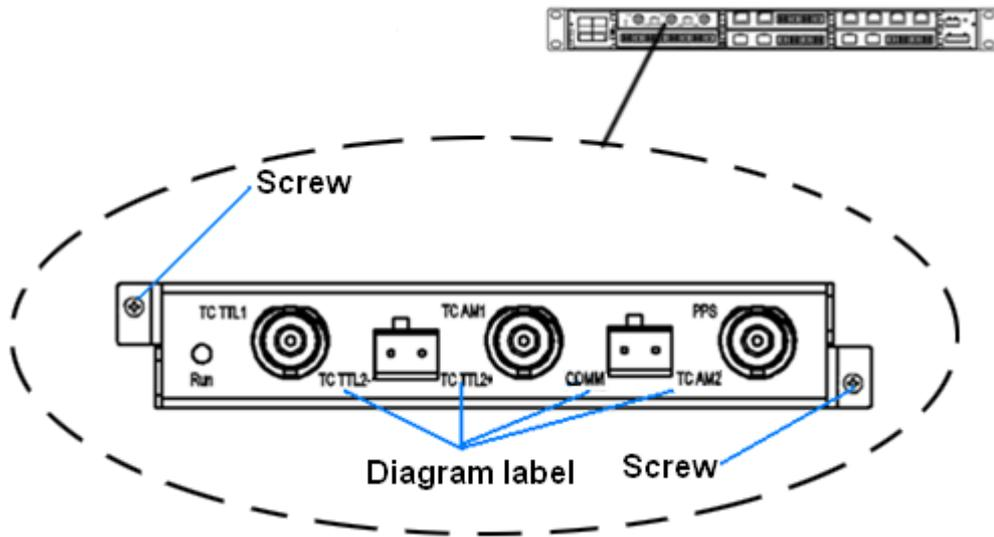

Figure 4 Module Installation 2
Step 2: Secure the module into the switch chassis with two screws (M2.5×5), as shown in Figure 4.